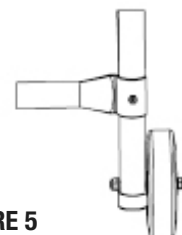

FIGURE 5
7. Attach wheels to frame with bolts and nuts and tighten. (See Figure 5)